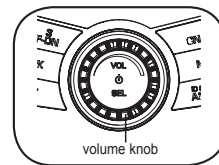

figure 4
3. The volume level of telephone conversation can be adjusted by rotating the volume knob (Figure 4).
3. Volume of BT Music can be adjusted by volume knob (Figure 4).